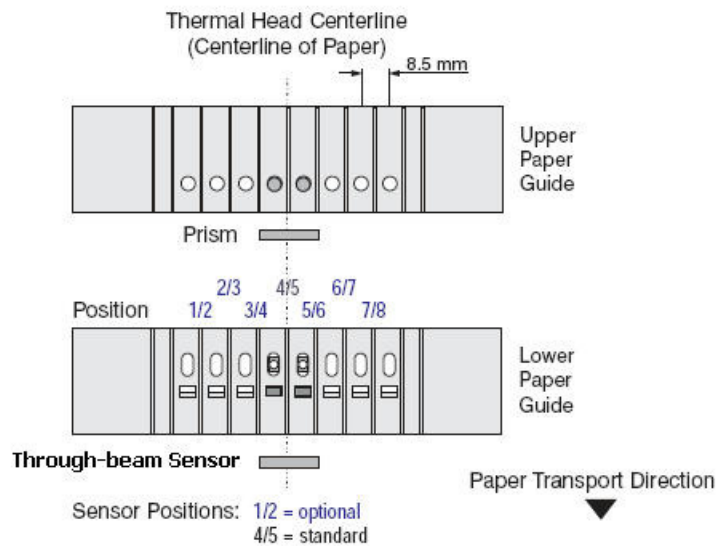

Figure 9
The through-beam sensor can also be used in a manner similar to a Black Mark sensor. Instead of a Black Mark, a hole is used in the paper. The through-beam sensor is located in one of seven (7) different possible locations; the centerline location of the paper path is the default. The possible positions of these sensors are detailed in the Figure 9.